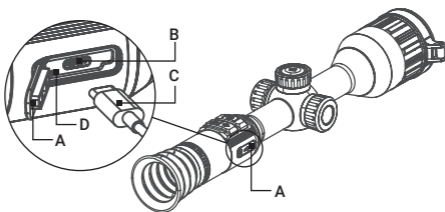

FIGURE 2-1. USB INTERFACE
1. Open the USB interface cover (Figure 2-1, A).
2. Connect the power adapter to the scope's interface port (B) using the USB cable (C).